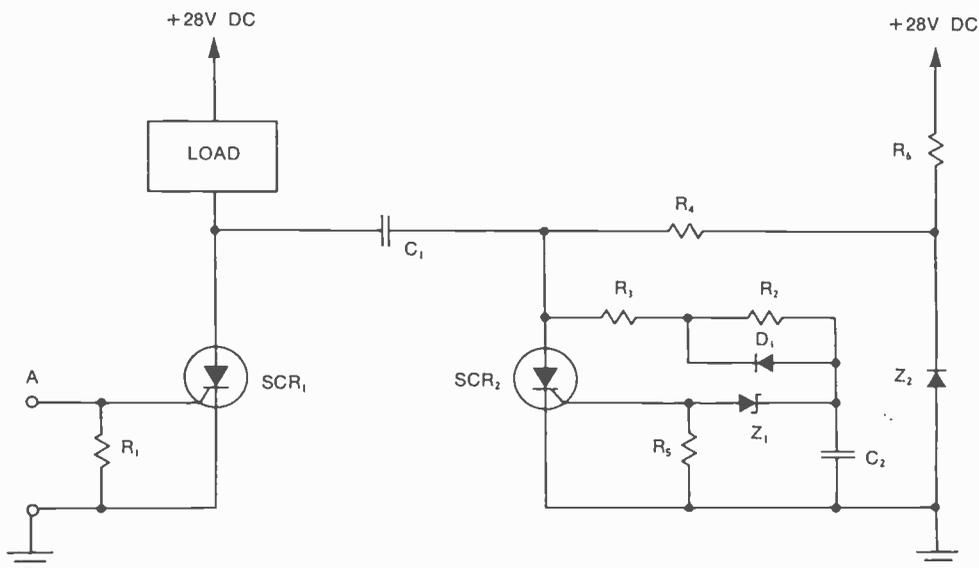

Fig. 1. Unitorde thyristor circuit for high-power interval timer.
**Simple SCR Circuits.** With all the publicity MSI and LSI devices have received recently, some of us are likely to forget that there are many interesting circuits and useful projects that can be assembled using discrete devices. As examples, three relatively simple, although quite versatile, SCR circuits are illustrated in Figs. 1, 2 and 3. All three circuits were abstracted from *Thyristor New Design Ideas*, a 50-page, 8½" × 11" booklet published by the Unitrode Corporation (590 Pleasant Street, Watertown, MA 02172). In addition to the schematics shown, the booklet features a variety of practical lamp and motor control circuits, temperature and light sensor controls, electronic switches, drivers, and counting circuit designs, together with condensed product specifications for Unitrode SCR's PUT's, LASCR's, and GTO's. Mathematics is kept to a minimum and most of the schematics include typical component values.
With a pair of SCR's, the interval timer circuit illustrated in Fig. 1 is designed for operation on a 22-to-40-volt (nominally, 28-